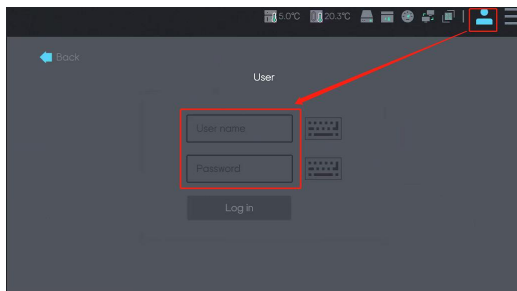

Figure 3-10 Login interface of sequencer
- 1) Click the login icon in the upper right corner of the sequencer to enter the login interface, and fill in the **[User name]** and **[Password]** (Figure 3-10):